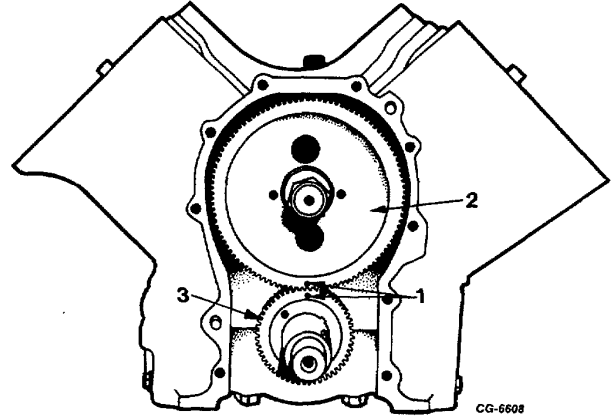

Fig. 146 Aligning Timing Marks on Camshaft and Crankshaft Gears
- d. Align timing marks on camshaft gear and crankshaft gear (Figure 146) and position camshaft into camshaft bushings. Remove installer tool.